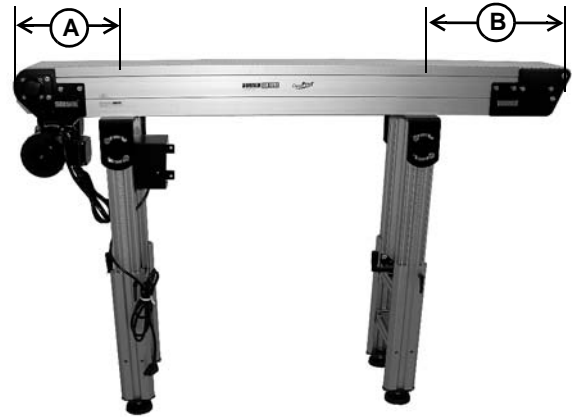

Figure 2
- “A” = 3 ft (914 mm) maximum (See Figure 2)
- “B” = 3 ft (914 mm) maximum (See Figure 2)